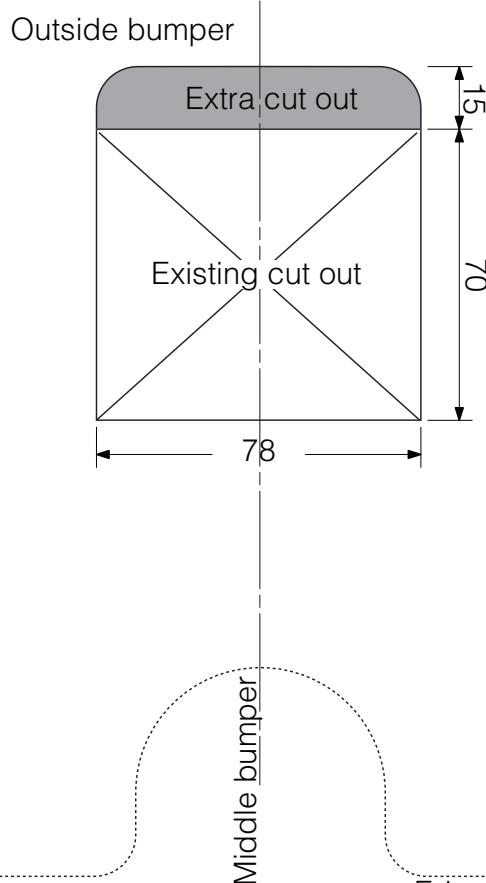

Fig.2
8. **N.B. The following only applies to the estate:** Saw a section out of the middle of the underside of the bumper as shown in fig 2.
8. **OBS: kun ved vognen gælder det:** Sav en del ud af kofangeren midt på undersiden jf. fig. 2.